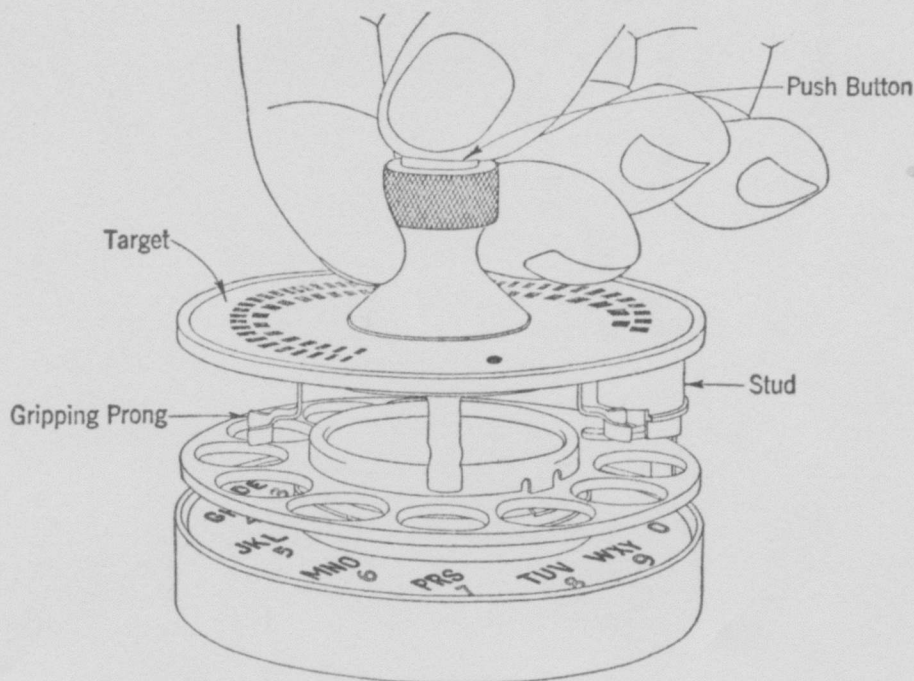

Fig. 2.
2.22 Mount the 2A target on the dial to be tested by grasping the knurled knob and depressing the push button to expand the prongs as shown in Fig. 2. (Use of the push button is especially important when placing the target on colored dials to avoid marring their finish.)